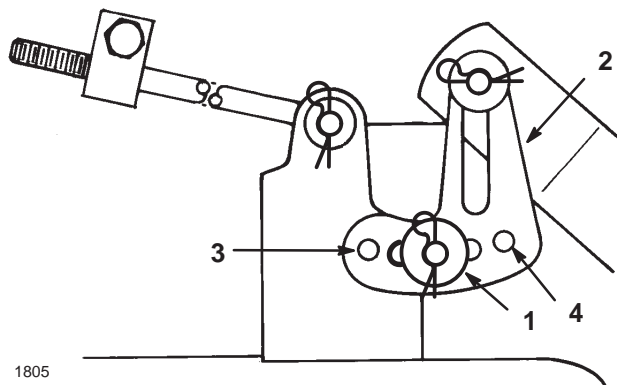

Figure 50
5. Remove the hairpin cotter and washer from the leveling bracket (Fig. 50).
6. To level the blades, reposition the leveling bracket in a different hole and install the washer and hairpin cotter (Fig. 50). A front hole lowers the blade height and a rear hole raises its height.